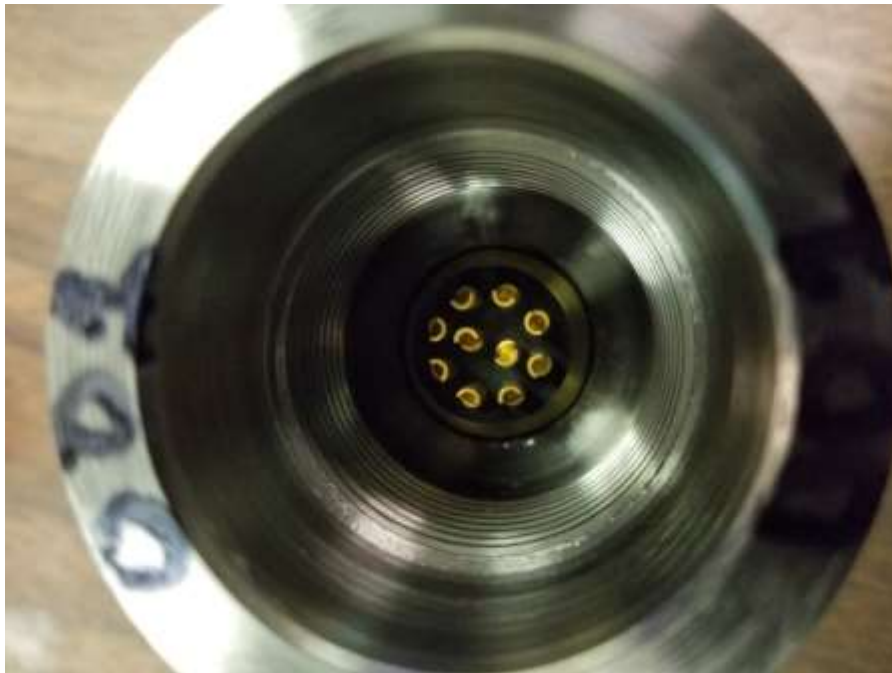

Figure 4: UUT 1 – 8/14/17 Post Test Checks
5. Dwelled at 20,000psi and 200°C for four (4) hours.
7. Removed the UUT from the chamber and inspected for damage or changes. (Figures 4 and 5)
- a. (8/14/17) – **PASS**; Both connectors appeared to be clean with no oil intrusion. (Figures 4 & 5).